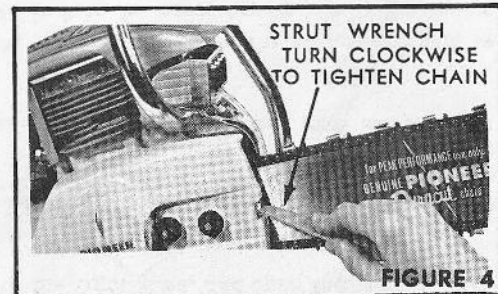

FIGURE 4
4. Assemble the chain to the sprocket and cutter bar making sure that the cutting teeth direction is correct (figure 4).